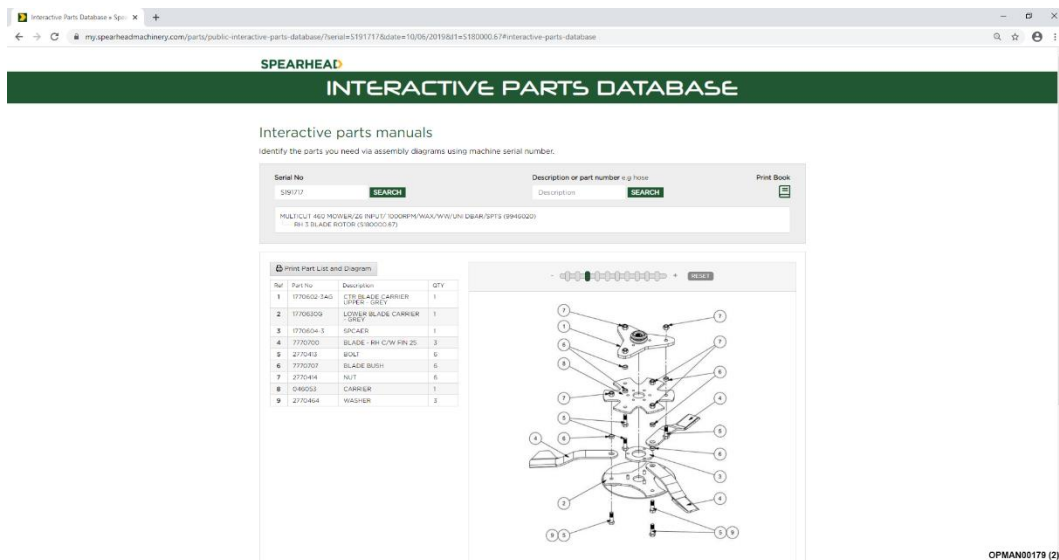

Figure 19 – Exploded Parts Breakdown With Bill Of Materials
- 7.1.1.4 You will finally be presented with a full exploded parts breakdown for that particular assembly, giving part numbers and the quantities required; see Figure 19.